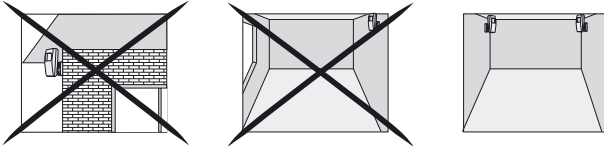

Fig. No. 2
1. The device should be installed indoors, in stationary environment ONLY. Choose a location where unauthorised entry is most likely (see Fig. No. 2).